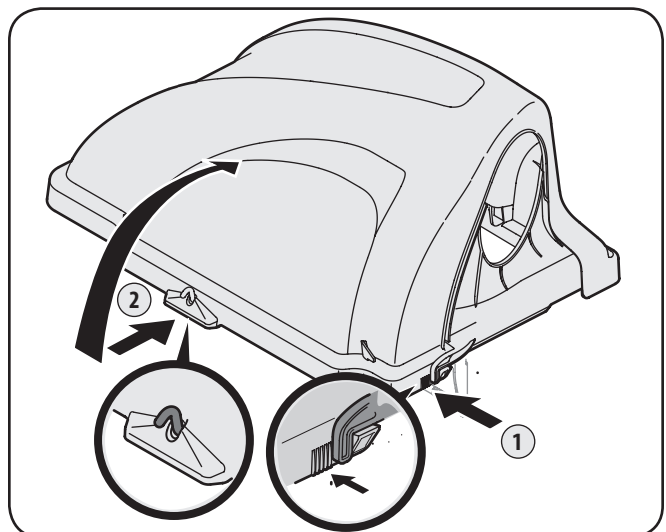

Figure 5-12
- Open Hood by pushing in on the rear, right-side tab with your right hand, as seen in 1 of Figure 5-12, and lifting the cover with your left hand in the center rear of the bagger cover, 2.